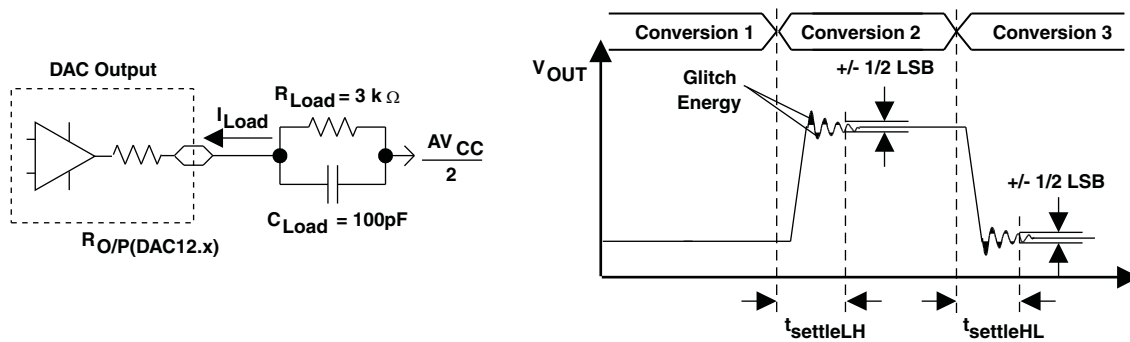

Figure 48. Settling Time and Glitch Energy Testing
- (1)  $R_{Load}$  and  $C_{Load}$  are connected to  $AV_{SS}$  (not  $AV_{CC}/2$ ) in Figure 48.
- (2) Slew rate applies to output voltage steps  $\geq 200$  mV.
- (3)  $R_{LOAD} = 3$  k $\Omega$ ,  $C_{LOAD} = 100$  pF